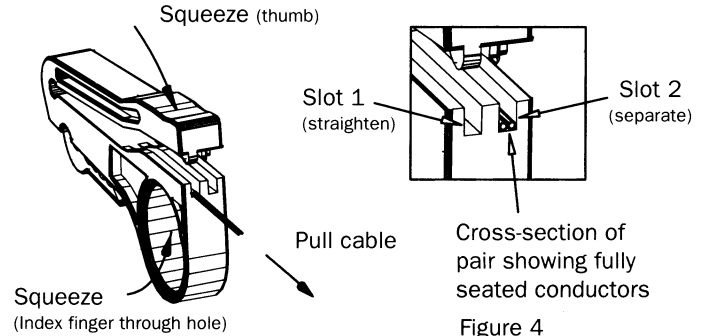

Figure 3
4. Insert approximately 1" (25 mm) of an adjoining twisted-pair into slot 1 (no blade) as shown in Figures 3&4. Squeeze the cable tool closed using thumb and index finger. While clamping the pair between twists, pull the tool and cable in opposite directions. This operation removes the twists from the pair; however, it may be necessary to completely straighten the last twist by hand prior to separation.